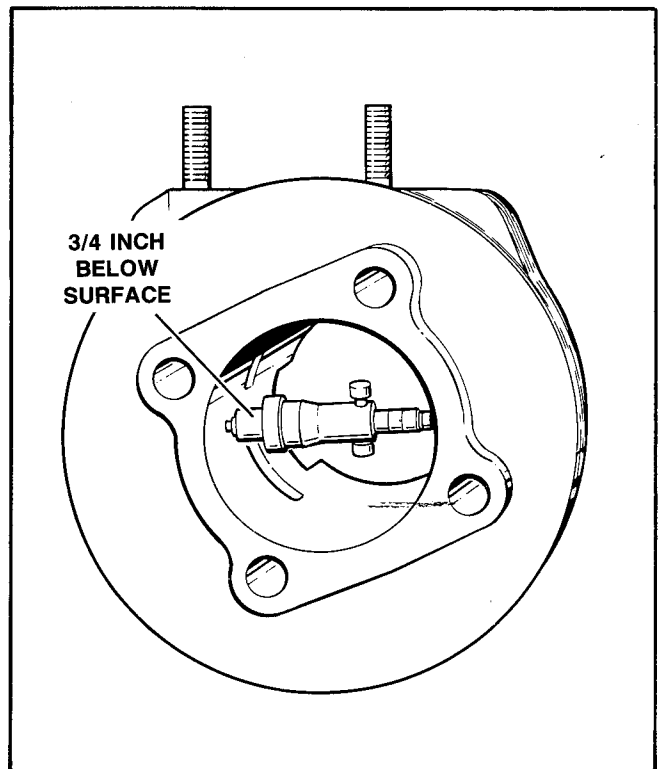

Figure 51 – Cylinder Bore Measurement
- See Figure 51. Take cylinder bore measurement 3/4 in. from top of bore, measuring from front to rear, then left to right. Record the measurements.